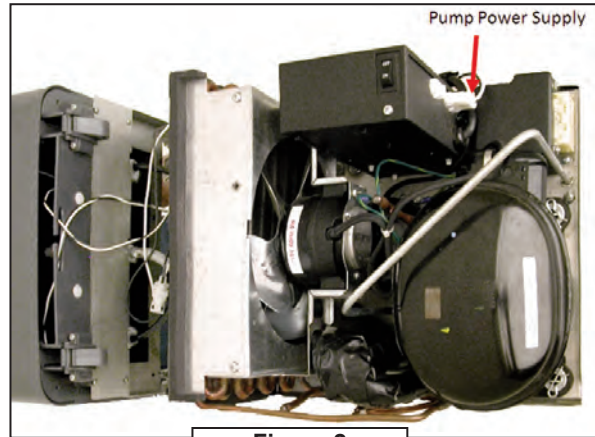

Figure 2
A. The unit is equipped with a built-in carbonator, disconnect the power supply (Fig 2) to the carbonator motor by disconnecting the four pin connector located near the top of the electrical control box on the refrigeration deck.